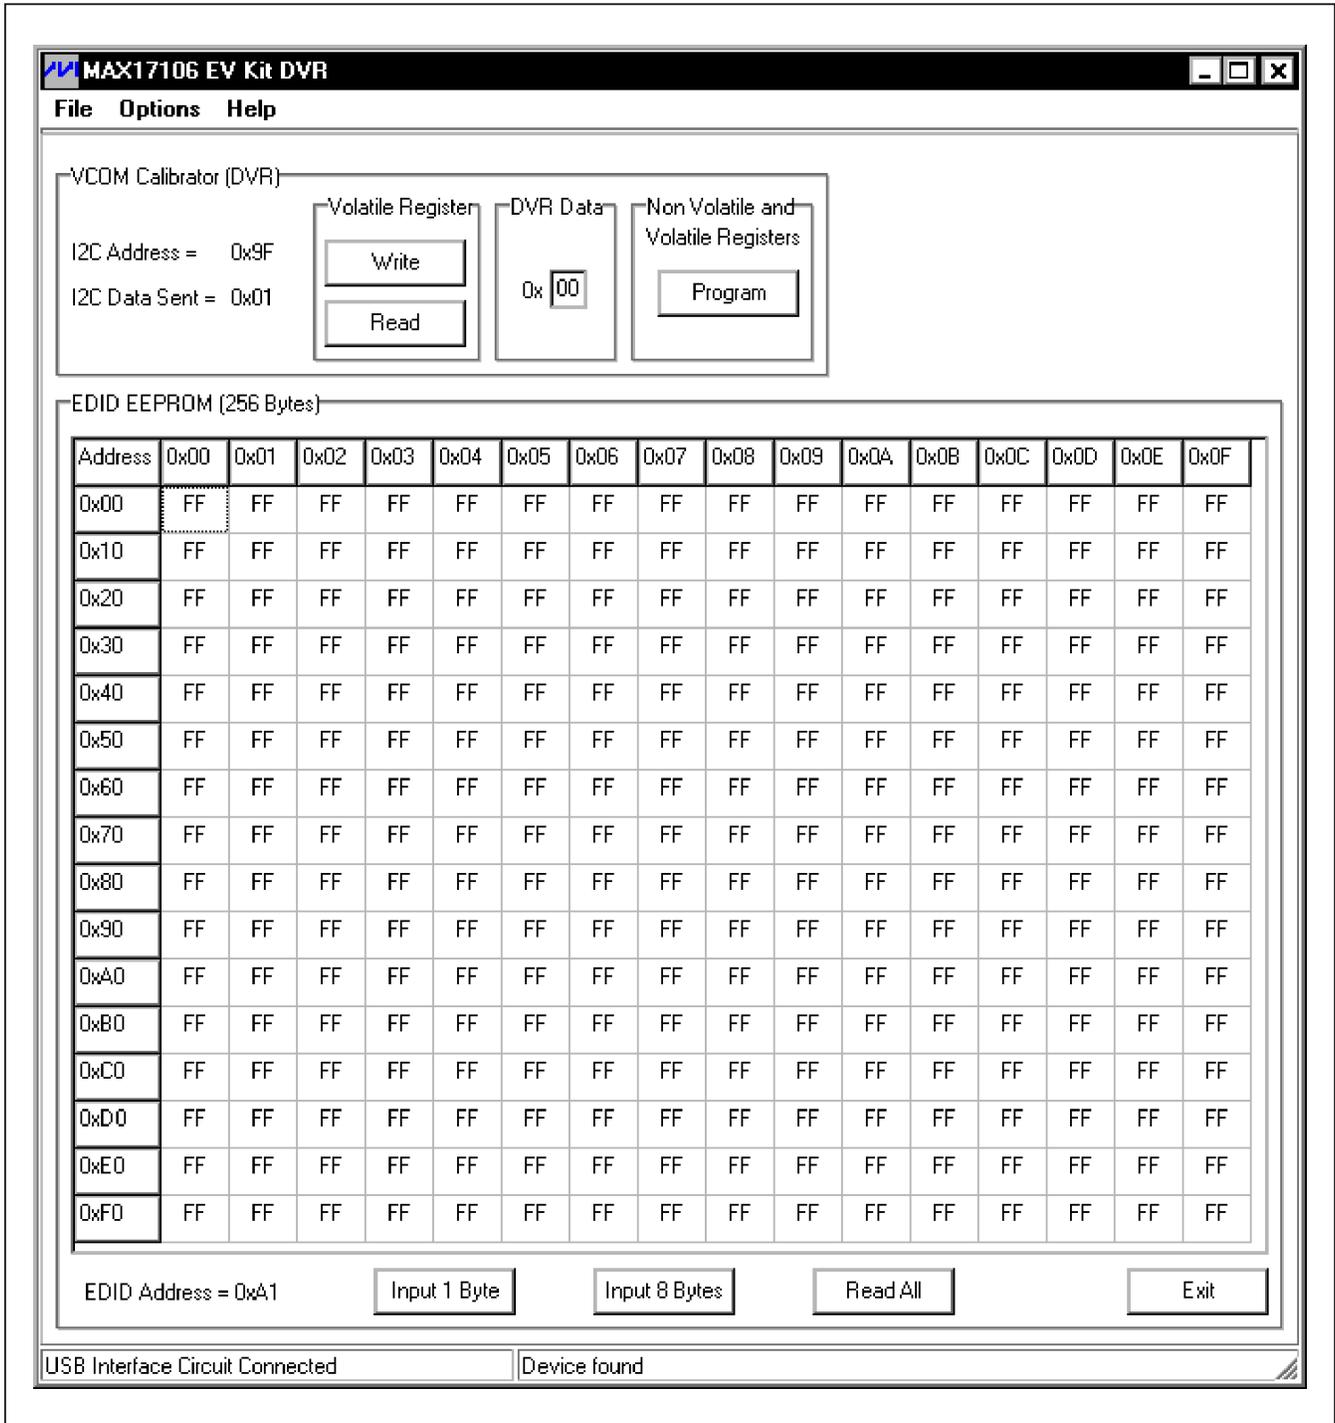
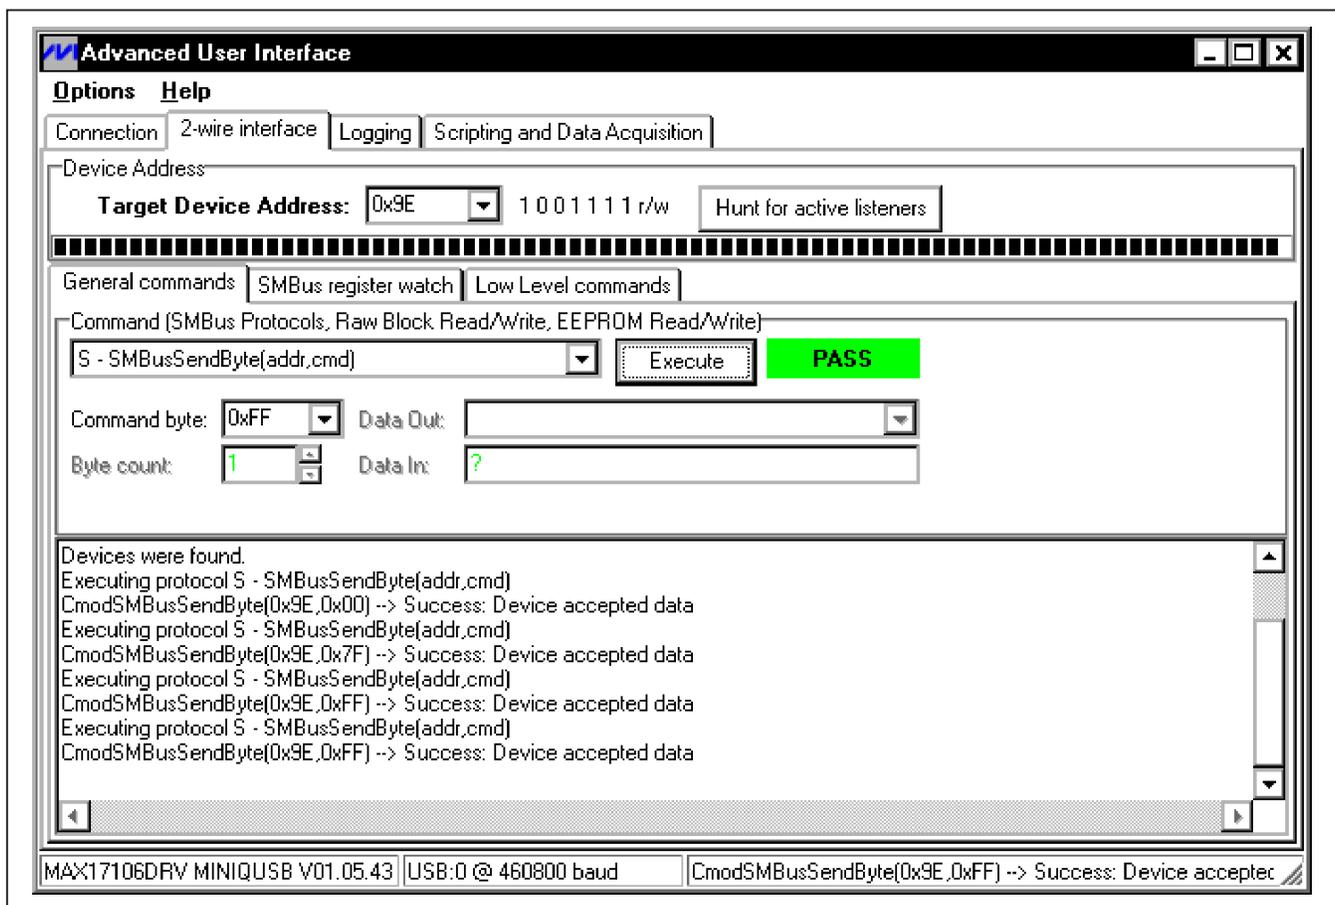

Figure 1. MAX17106 EV Kit DVR Software Main Window
Figure 8. Simple Low-Level 2-Wire Interface
- 18) Observe as the programs automatically detect the I2C addresses in the MAX17106 and start the programs. After successful connection, the EV kit software main windows (Figures 1 and 2, respectively) appear in the top-left corner of the PC monitors.
The MAX17106 EV kit DVR software GUI, shown in Figure 1, is the MAX17106 EV kit DVR software's main window. This window provides a convenient means to control the MAX17106 VCOM calibrator and EDID EEPROM. Use the mouse or press the Tab key to navigate through the GUI controls. The correct I2C communication is generated to update the MAX17106 internal memory registers when any of these controls are executed.
The MAX17106 EV kit DVR software's main window (Figure 1) divides the EV kit software functions into two group boxes, **VCOM Calibrator (DVR)** and **EDID EEPROM (256 Bytes)**. The **VCOM Calibrator (DVR)** group box controls the MAX17106 VCOM1 on the EV kit. The VCOM2 and VCOM3 outputs on the EV kit are not controlled by the MAX17106 VCOM calibrator.
There are two methods for communicating with the MAX17106 EV kit, through the normal user-interface panel (Figures 1 and 2), or by using low-level SMBus™ commands available through a 2-wire interface diagnostic tool. Activate the **2-Wire Interface** (Figure 8) utility from the main program's **Options | Interface (Advanced Users)** main menu bar. A window is displayed that allows I2C operations, such as **SMBusReceiveByte** and **SMBusSendByte**.
**Note:** The I2C dialog boxes accept numeric data in binary, decimal, or hexadecimal. Hexadecimal numbers must be prefixed by \$ or 0x. Binary numbers must be exactly eight binary digits. See Figure 8 for an example of this tool. Figure 8 shows a simple SMBus send-byte operation using the included 2-wire interface diagnostics tool. In this example, the software is sending data (Cmd)